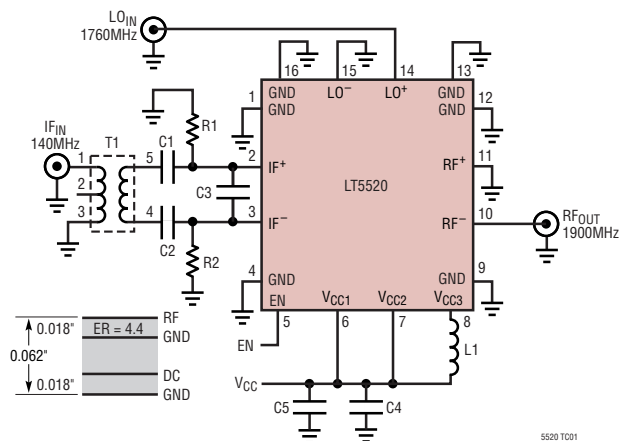

Figure 2. Test Schematic for the LT5520
**1900MHz Application:**  $V_{CC} = 5V_{DC}$ , EN = High,  $T_A = 25^{\circ}C$ , IF input = 140MHz at -10dBm, LO input = 1.76GHz at -5dBm, RF output measured at 1900MHz, unless otherwise noted. Test circuit shown in Figure 2. (Notes 2, 3)
(Test Circuit Shown in Figure 2)  $V_{CC} = 5V_{DC}$ , EN = High,  $T_A = 25^{\circ}C$  (Note 3), unless otherwise noted.
(Test Circuit Shown in Figure 2)  $V_{CC} = 5V_{DC}$ , EN = High,  $T_A = 25^\circ\text{C}$  (Note 3), unless otherwise noted.
## TYPICAL PERFORMANCE CHARACTERISTICS (Test Circuit Shown in Figure 2)
$V_{CC} = 5V_{DC}$ , EN = High,  $T_A = 25^\circ\text{C}$ , IF input =  $140\text{MHz}$  at  $-10\text{dBm}$ , LO input =  $1.76\text{GHz}$  at  $-5\text{dBm}$ , RF output measured at  $1900\text{MHz}$ , unless otherwise noted. For 2-tone inputs: 2nd IF input =  $141\text{MHz}$  at  $-10\text{dBm}$ . (Test Circuit Shown in Figure 2.)
$V_{CC} = 5V_{DC}$ ,  $EN = High$ ,  $T_A = 25^\circ C$ , IF input = 140MHz at -10dBm, LO input = 1.76GHz at -5dBm, RF output measured at 1900MHz, unless otherwise noted. For 2-tone inputs: 2nd IF Input = 141MHz at -10dBm. (Test Circuit Shown in Figure 2.)
in Figure 2. The 1000pF capacitor should be located as close to the pins as possible.
**VCC3 (Pin 8):** Power Supply Pin for the Internal Mixer. Typical current consumption is about 36mA. This pin should be externally connected to VCC through an inductor. A 39nH inductor is used in Figure 2, though the value is not critical.